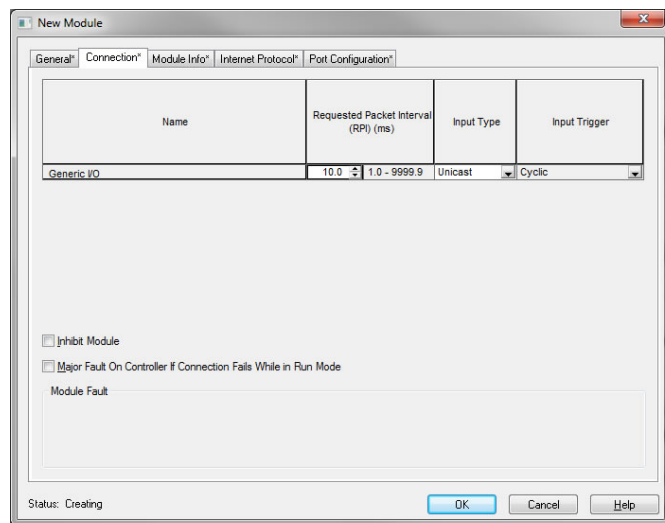

Figure 36: AOP New Module Properties Connection Tab
13) Click on the “Connection” tab. Refer to Figure 36.